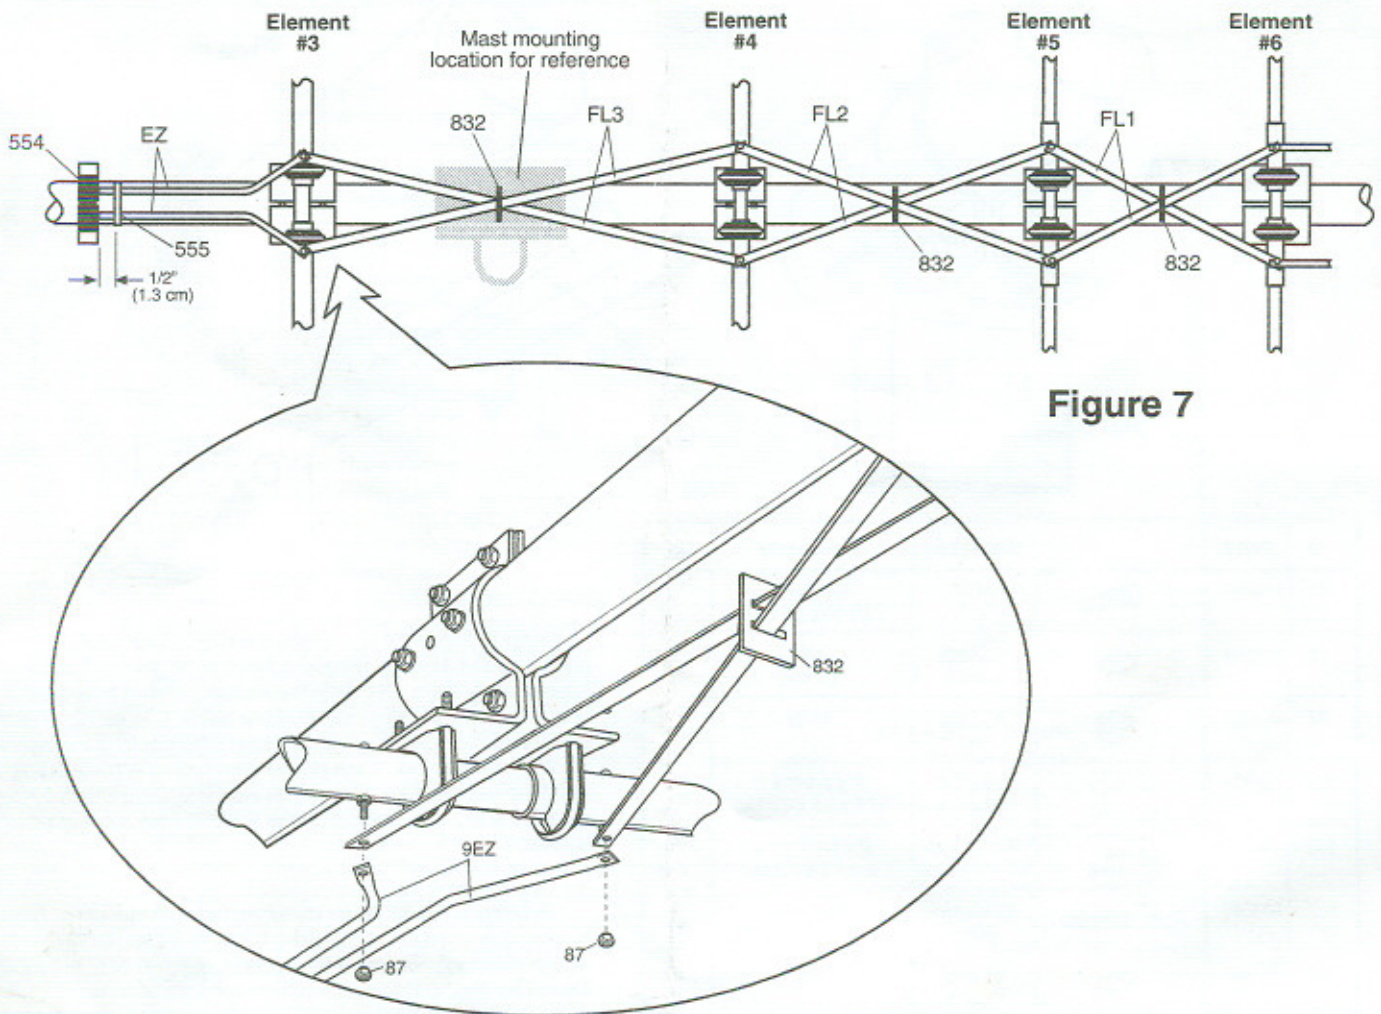

Figure 7
The feed system consists of 3 sub-assemblies. They are the feed-straps, the tuning-tube insulator and the matching network. Figure 7 illustrates the 3 pairs of feed-straps (FL1, FL2, FL3). Refer to the Feed System Subassembly Parts List for the hardware required to install the straps. Slide a feed-strap insulator (832) on to each pair of feed-straps to space and insulate the straps. Elements may be rotated slightly during feed strap attachment. Tighten Cush-A-Clamps on Elements #3, #4, #5 and #6.
Reference Figure 7 and position the Tuning Tube Shorting Strap (555) 1/2 inch from the tuning tube insulator. Adjusting this strap will not have a significant effect on the VSWR of the X7. Tighten strap screws.